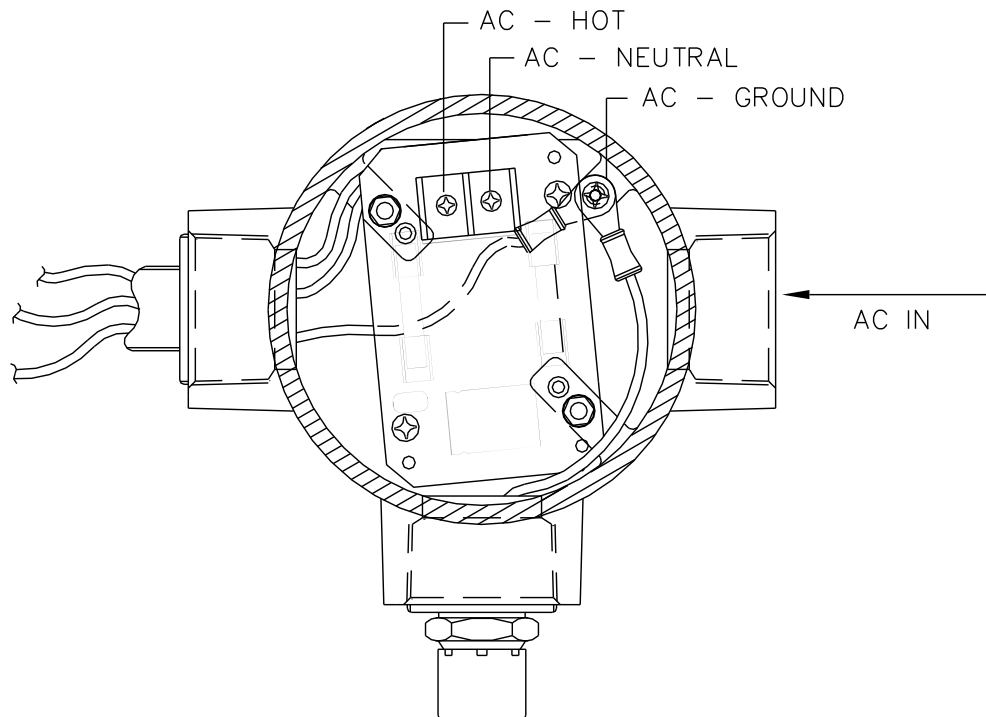

Figure 60 AC Wiring Instructions
11. Connect the ground wire to the green screw T1 (see Figure 60).